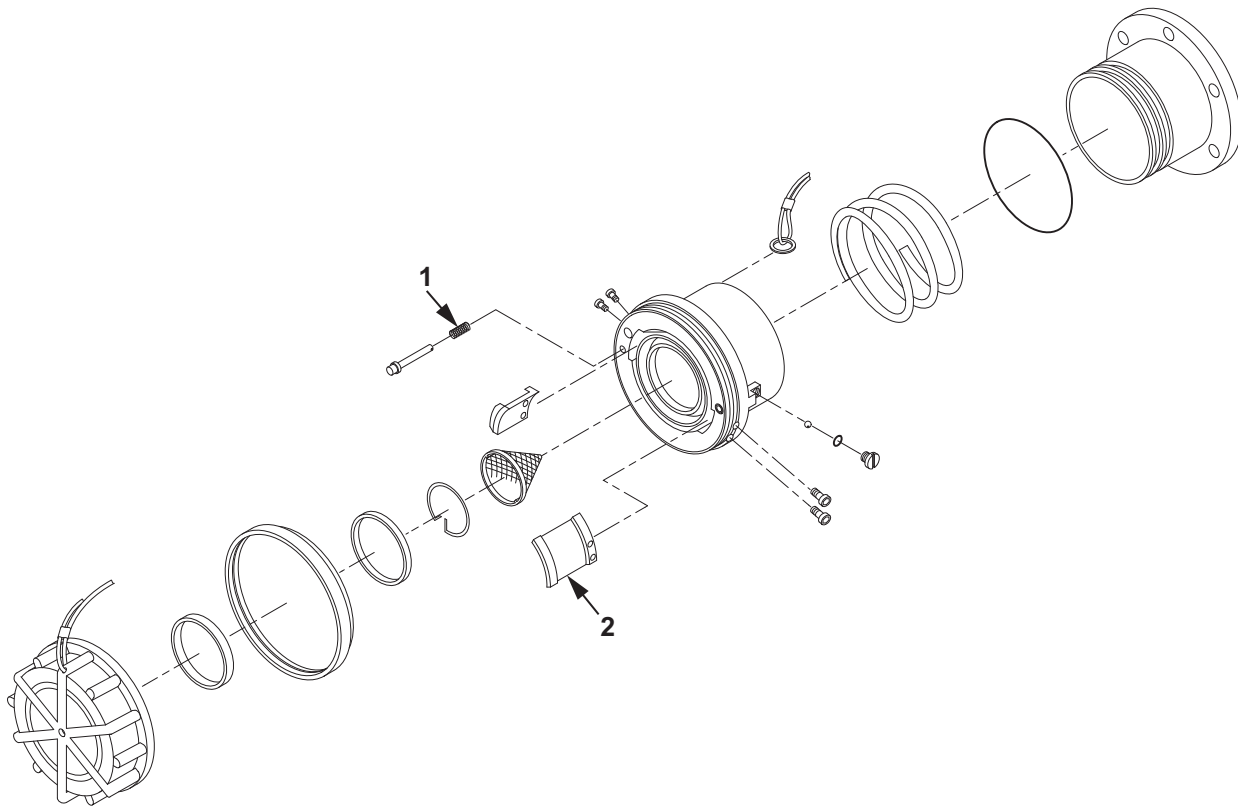

Figure 3. Non-Valved Dry-Break Coupling Testing.
2. Disconnect non-valved dry-break coupling assemblies by pulling ring (Figure 3, Item 2) while rotating non-valved dry-break coupling assemblies counterclockwise.
4. Install the dust cap (Figure 3, Item 1) on the repaired non-valved dry-break coupling assembly.